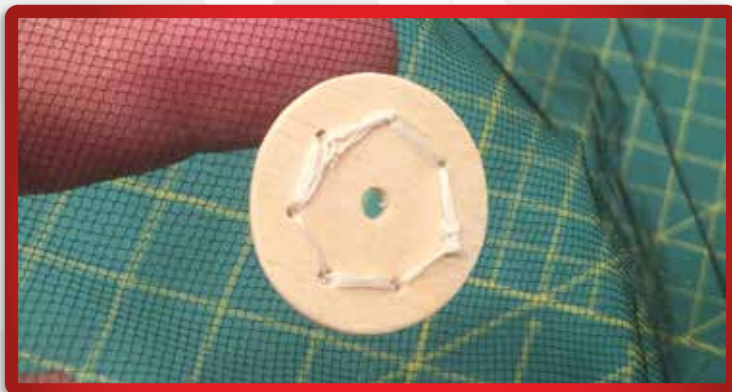

FIGURE 4. SEW THE ATTACHMENT BUTTON TO THE MESH DISK.
f) Sew the attachment button to the mesh disk. Use a long length of thread to go around the hole pattern at least twice. See Figure 4.